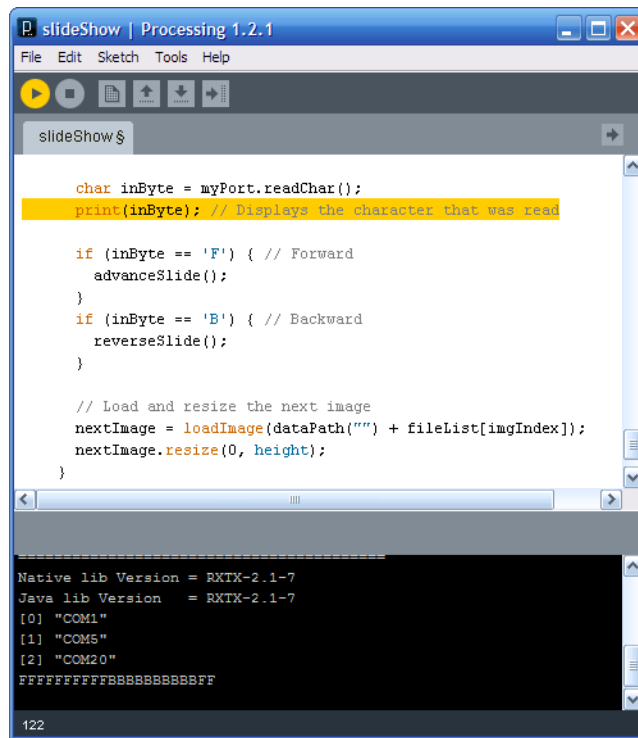

Figure 5-26. Processing displaying the characters it reads from the Arduino over the serial port
- ❻. The `draw()` function is similar to Arduino's `loop()` in that it's called continuously. Because Processing draws graphics and animations, this function is called a certain number of times per second (60) unless you change the frame rate with the `frameRate()` function.
- ❼. This block checks to make sure there is some text to read from the serial port. If so, it reads it and prints it out (see Figure 5-26).